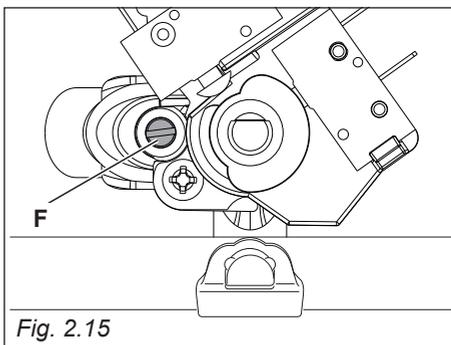

Fig. 2.15
- With a thin screwdriver turn the screw “F” until adjustment is correct (fig. 2.15).